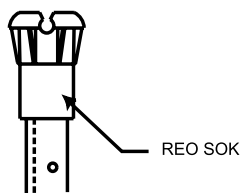

FIG. 6
12. Place a ReoSok® (Fig. 6) on top of each picket (Optional).